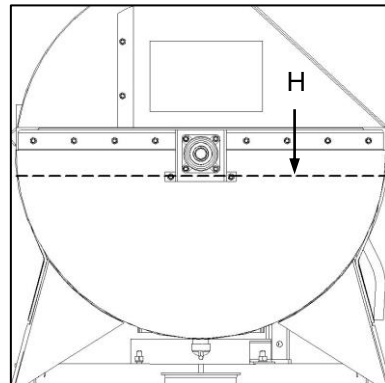

Fig. 2
- ✔ The maximum product level should not extend higher than the underside of the main flail shaft (Fig. 2-H).
- ✔ Die maksimumproduktvlak moet nie hoër as die onderkant van die hoofvleëlas wees nie (Fig. 2-H).